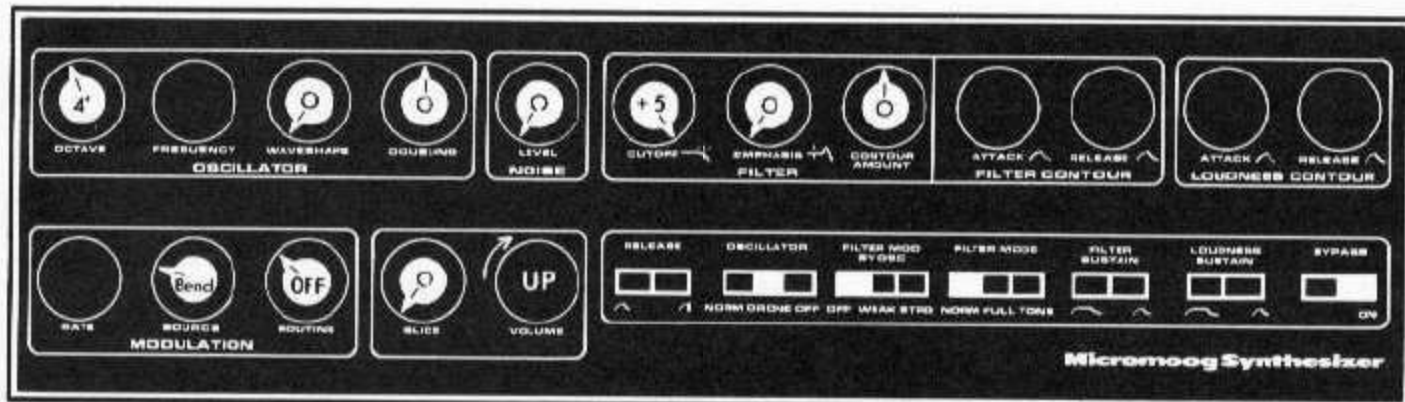

FIGURE 5-1 SOUND CHAIN CHECK
A. No Sound. Power Light does not come on. B. No Sound. Power Light on. $\pm 15V$ supplies working.	1. Internal fuse F1 or F2 blown. 2. Bad power supply board 996-041615-001. 3. - 15V shorted out somewhere. Set controls according to Figure 5-1. Signal trace the following points to locate faulty circuit. 1. Q402 Gate 1 to see if the oscillator (VCO) is running. If running: a. Roll NOISE control knob up and down. If noise gets through to the output, then the fault lies in the waveshaper circuit. If noise does not get through: b. Check the filter (VCF) output at the emitter of Q513. No output here means that the filter is bad. If our sawtooth is here then: c. Check the output of the VCA at IC602B, pin 7. No signal here indicates trouble in the VCA. Otherwise the problem is in the VOLUME pot R612 or the harness wiring.
G. Oscillator Summing Network Fault.	1. IC301, CR303, Q307, Q308. 2. One of the summing resistors receiving wrong input. With controls set according to Figure 5-1, VO at P2, pin 3 should be within a few millivolts of -40 mV DC (IC301A, pin 1 should be roughly -2.0 volts DC). If VO is far off spec., then check input ends of R302, 330, 331, 339, 343, 371 and 372. You may short each one of these resistors to ground to help locate the troublesome input.
I. VCF not passing signal. Reason undetermined.	Set controls according to Figure 5-1. 1. Insure that input signal of roughly 40 mV p-p appears at base of Q501.
L. VCA not working.	1. Insure that IC601, pin 2 has 40 mV p-p signal. (See Figure 5-1.) If signal is here, VCA is at fault. 2. Possible defective parts: IC601, IC602, Q601, SW601.